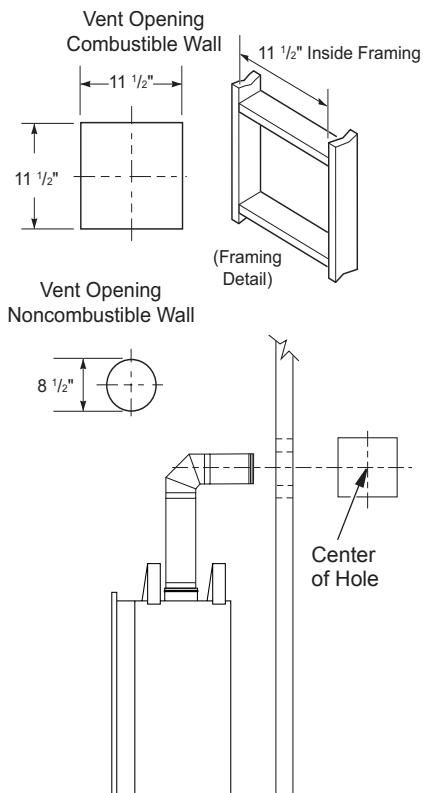

Figure 9 - Vent Opening Requirements
etrated is constructed of noncombustible material, such as masonry block or concrete, a 8 1/2" hole with zero clearance is acceptable (see Figure 9).
1. Cut a 11 1/2" square hole in ceiling using locating hole as a center point. Opening should be framed to 11 1/2" x 11 1/2" inside dimensions, as shown in Figure 9 on page 12 using framing lumber the same size as ceiling joists. If area above ceiling is an insulated ceiling or an attic, nail firestop from top side. This prevents loose insulation from falling into required clearance space. If area above ceiling is a living space, install firestop below framed hole. Firestop should be installed with no less than three nails per side (see Figure 17, page 17).
2. Assemble desired lengths of pipe and elbows necessary to reach from fireplace flue up through firestop. Be sure all pipe and elbow connections are fully twist-locked (see Figure 9, page 12).
3. Cut a hole in the roof using locating hole as a center point. (Cover any exposed open vent pipes before cutting hole in roof.) The 11 1/2" x 11 1/2" hole must be measured on the horizontal; actual length may be larger depending on pitch of roof. There must be a 1" clearance from vent pipe to combustible materials. Frame opening as shown in Figure 9, page 12.